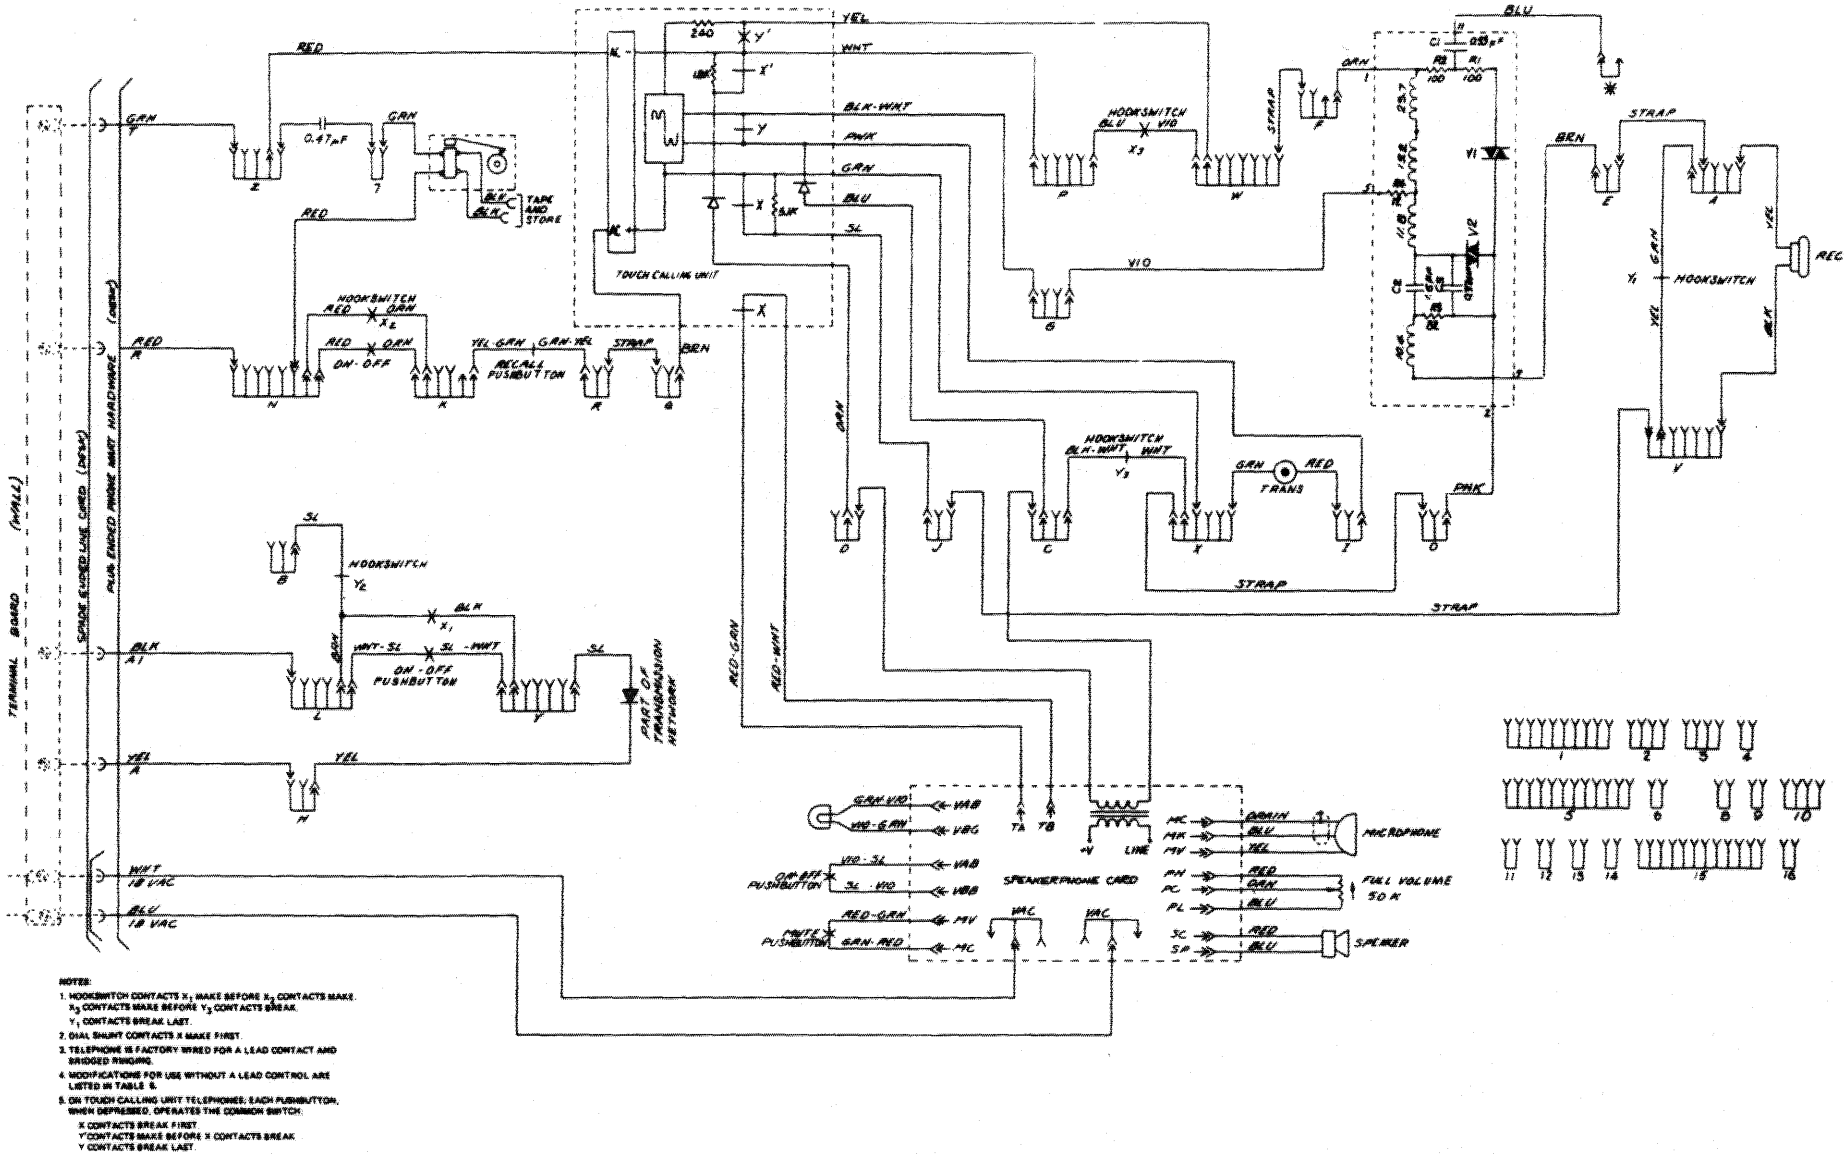

Figure 6. Type 881B Speakerphone Wiring Diagram (Touch Calling).
4.01 The Type 881B single-line, desk-version speakerphone is equipped with a 6-conductor line cord terminated in a modular plug. The telephone is provided with the required transformer. This speakerphone can be ordered by using the prefix HE (refer to Table 1). Refer to Figures 6 and 7 for the wiring diagram.
- (b) Remove the handset cord conductors from their respective terminals referring to the appropriate wiring diagram (Figures 6, 7, 9, 10, and 13).